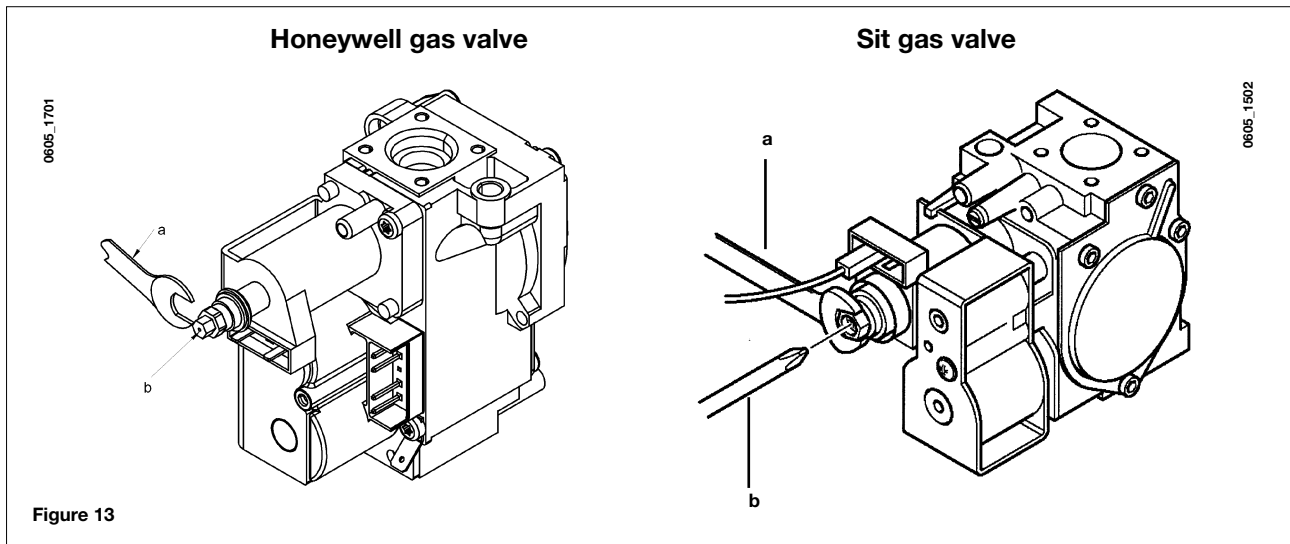

Figure 13
- adjust the tube brass screw (a) Fig. 13 to obtain the pressure settings shown at table 1;
- disconnect the modulator feeding cable and unscrew the (b) Fig. 13 screw to reach the pressure setting corresponding to reduced heat output (see table 1);